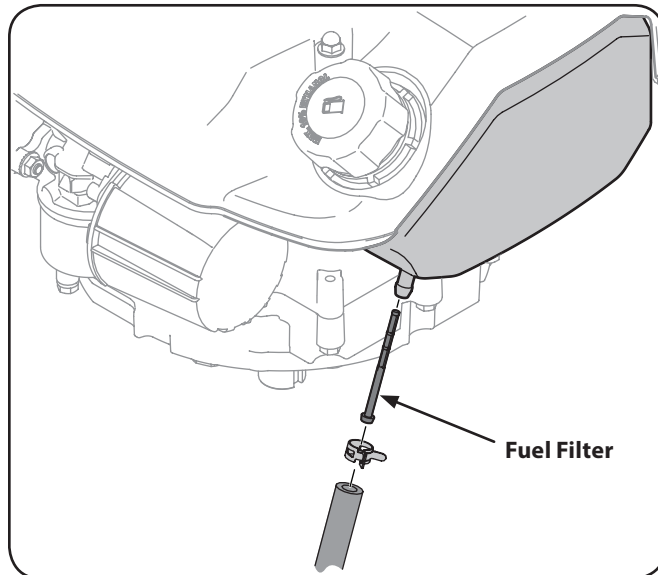

Figure 6-8
2. Remove hose clamp from fuel line and remove fuel line from tank outlet. See Figure 6-8.